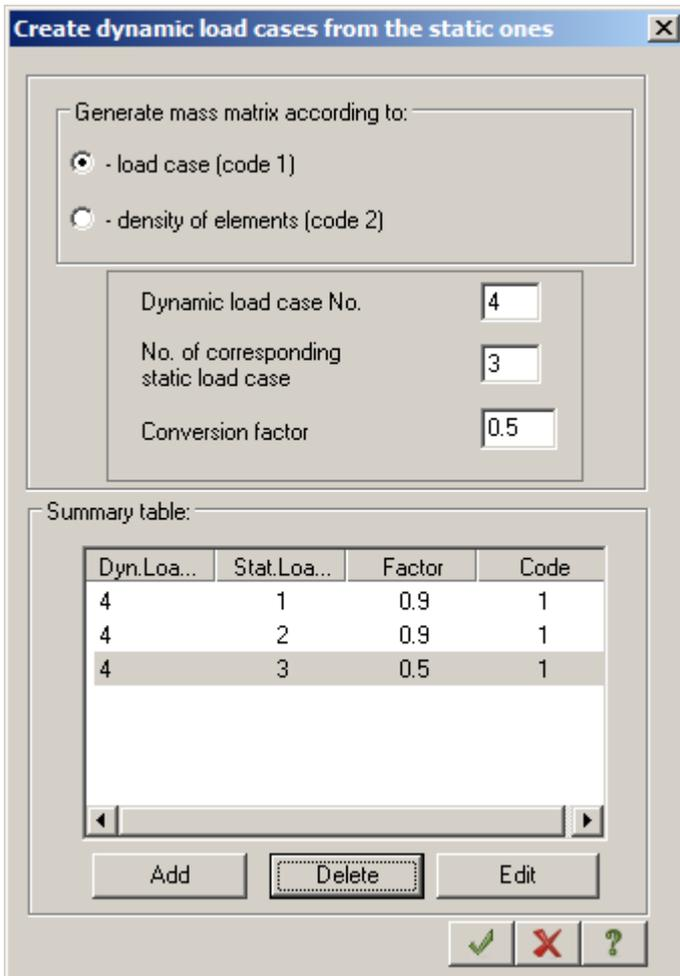

Figure 4.27 Create dynamic load cases from the static ones dialog box
- ⇒ In the **Create dynamic load cases from the static ones** dialog box (see Fig.4.27), under **Generate mass matrix according to**, click **Load case (code 1)** and to create the first line of the summary table, specify the following data: